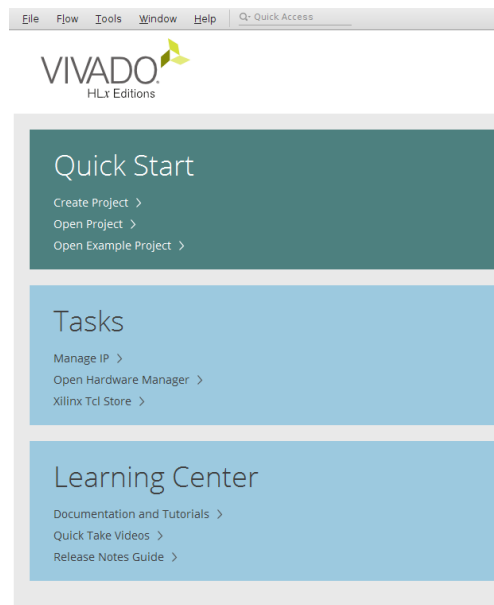

Figure 1: Quick Start and Open Project
3. Open the Vivado project by first opening Vivado and then clicking Open Project under Quick Start (i.e., Figure 1). The Vivado project should be available in your lab2 repository directory. Navigate to the Lab 2 project folder you extracted from you Canvas zip file and select the Lab 2 project file inside that folder.